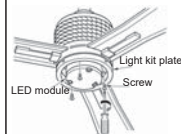

Fig.26
Step 5: Tighten the LED assembly to light kit plate with previously removed 3 screws at step 4. (Fig. 26)